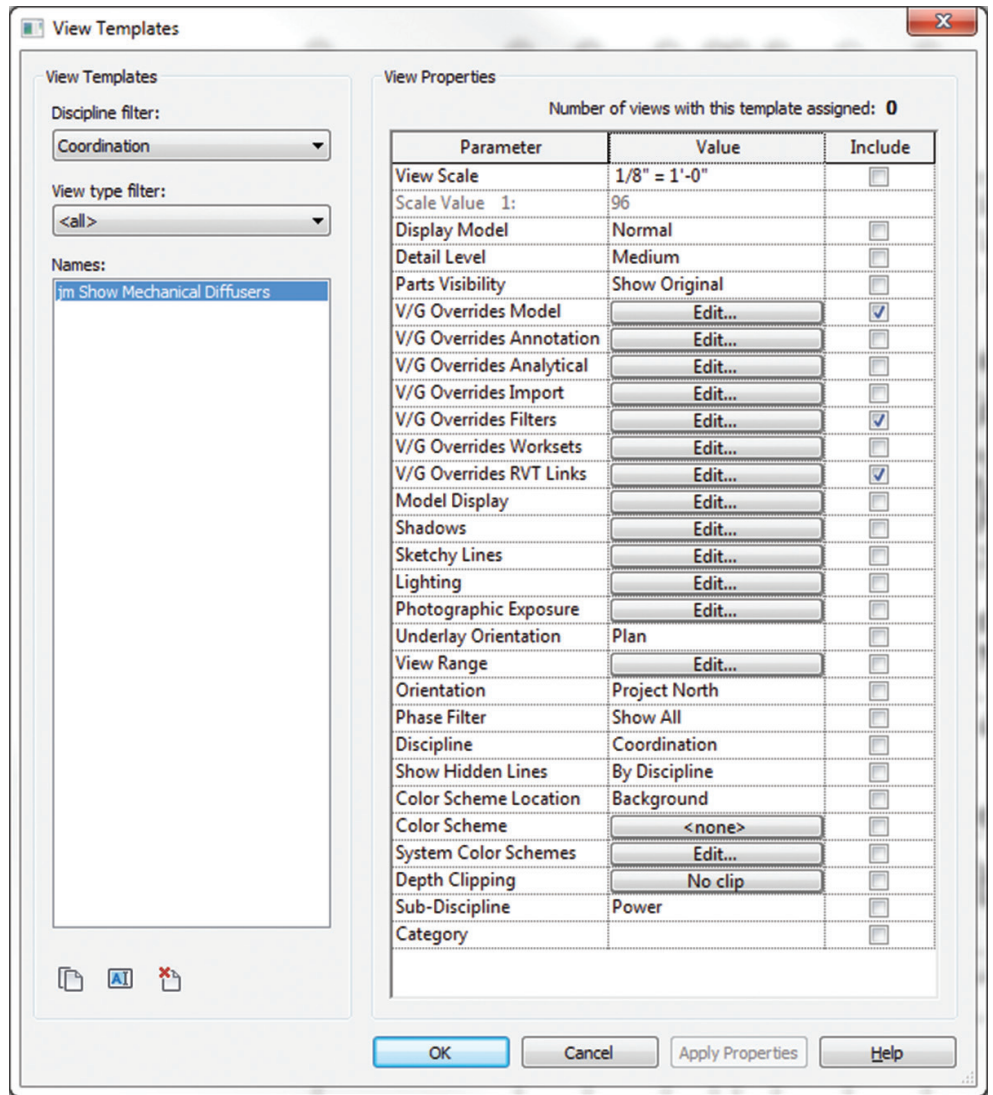

Figure 5: Uncheck the unnecessary options from the “Include” column
4. Once the name has been decided on, a dialog box will then pop up that has an "Include" column. Uncheck all of these checkboxes except the ones necessary for the proper display (potentially Worksets, Filters, Model Categories, and Links) – see Figure 5.